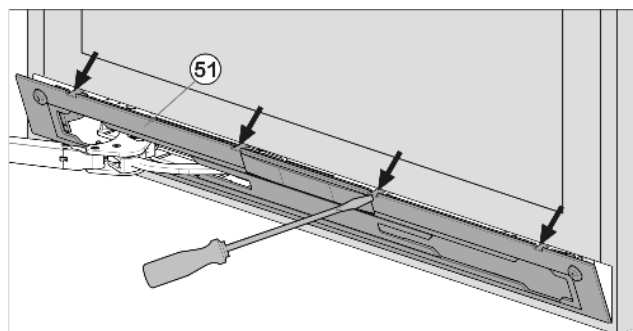

Fig. 25
- ▶ Release panel *Fig. 25 (51)* using slotted screwdriver and remove.